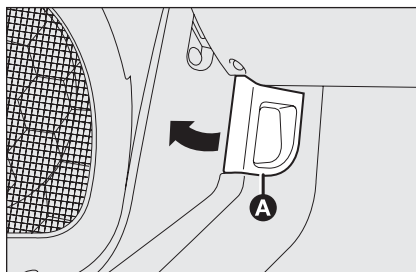

fig. 106
- pull lever **A**-fig. 106 in the direction of the arrow;